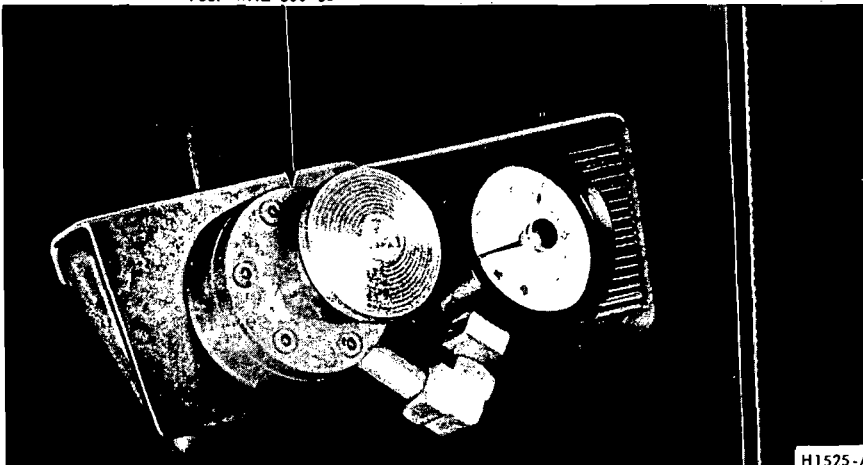

FIG. 2—Brake Pedal Effort Gauge Installed—Typical
1. Install a Brake Pedal Pressure Gauge on the brake pedal pad (Fig. 2).